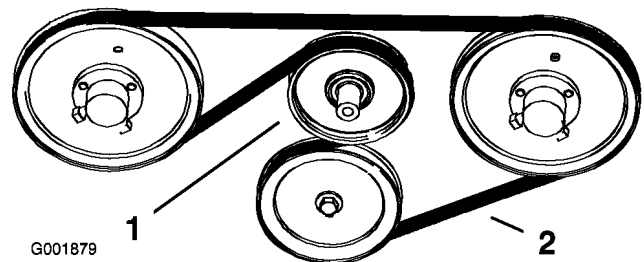

Figure 60
- Pull the spring loaded idler down and remove the traction belt from the engine and hydro pump pulleys (Figure 60). Remove the belt between the pulleys.
- Install the new belt around the engine and hydro pump pulleys (Figure 60).
- Pull the spring loaded idler down and align it below the traction belt. Release the pressure on the spring loaded idler (Figure 60).